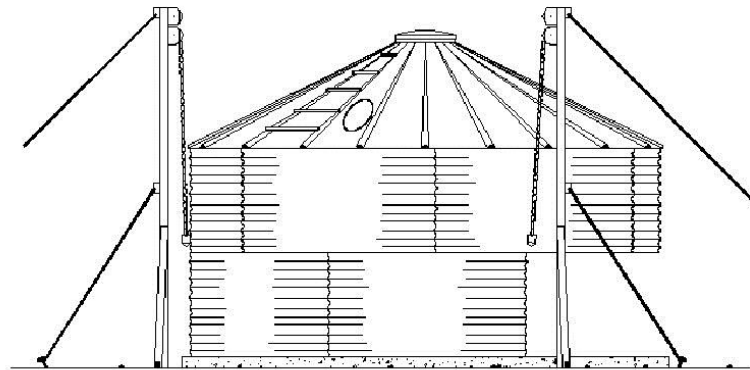

Figure 4
- 3- Attach the lifting jacks to the stiffeners (or to the holes lines of stiffeners in case they are not installed yet) and raise the silo high enough to let the assembly of the next body-sheets ring. (See figure 4).
The vertical joint of body-sheets must be staggered (as shown in the drawing) to allow all the stiffener holes to be aligned. (See figure 4)